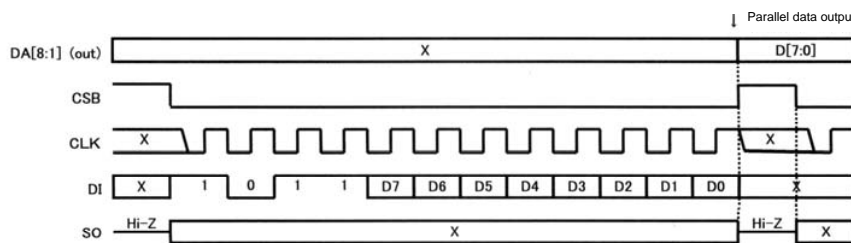

Fig.7
- D/A Converter Output Setting (Fig. 7)